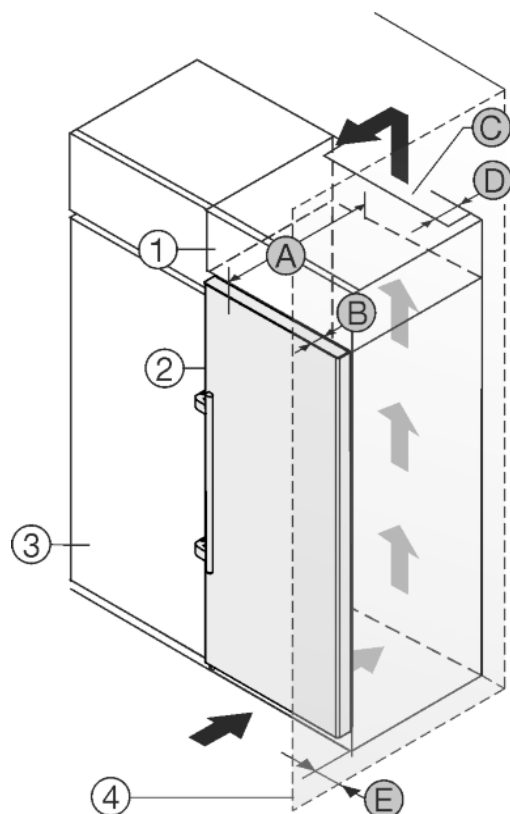

Fig. 9
The appliance can be built into kitchen units. A top cupboard *Fig. 9 (2)* can be added above the appliance in order to bring the appliance *Fig. 9 (1)* up to the height of the fitted kitchen units.
The appliance can be installed right next to the kitchen cabinet *Fig. 9 (3)*. The appliance must stick out by the depth *Fig. 9 (B)* from the front of the cabinet so that the doors can be opened fully. The appliance may protrude further depending on the depth of the kitchen cabinets and whether wall spacers are used.
- There must be a ventilation shaft with the depth *Fig. 9 (D)* at the back of the top cupboard over the entire width of the cupboard.
- The ventilation shaft *Fig. 9 (C)* must be observed under the ceiling.
If the appliance is installed with the hinges next to a wall *Fig. 9 (4)* the distance *Fig. 9 (E)* between the appliance and the wall must be observed. This is how far the handle protrudes when the door is open.